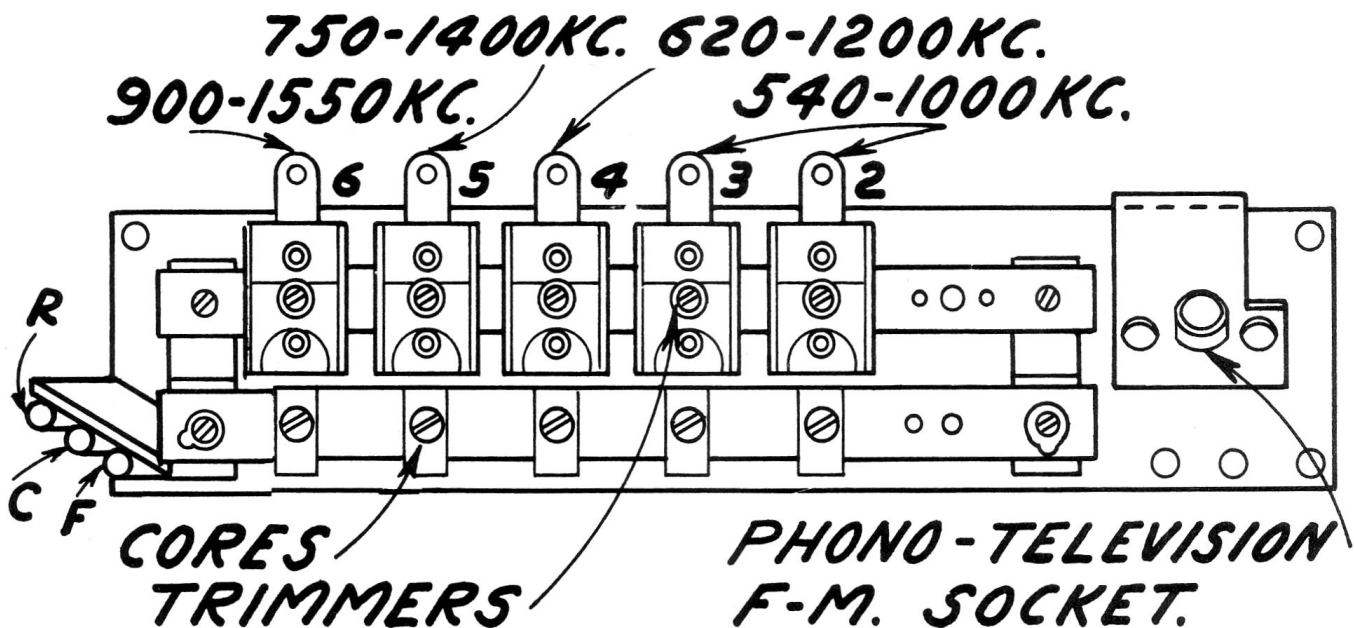

Fig. 4
(1) Turn "Range selector" to "A" position and manually tune in the first station, say 560 k.c.
(2) Turn "Range selector" to "P.B." position, press key No. 2 located second from left on front panel.
(3) Referring to Figure 4, adjust core and padder No. 2 for a peak at 560 k.c.
(4) Proceed to adjust the other four stations in order of frequency, as outlined above.